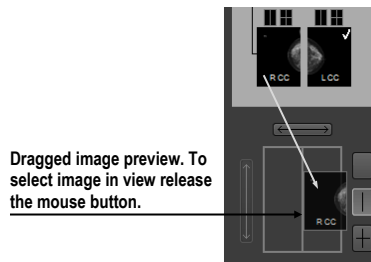

Figure 480 – Dragging an image from the study preview to the layout area
- Or, use the drag-and-drop technique to drag the image to the screen preview in the screen layout area in the image navigator (see Figure 480). The image is displayed in the appropriate view in the mammography workspace on the left or right monitor.